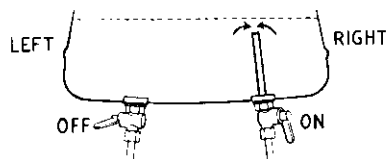

Fig. 3.
**Gas Taps.**—Turn down the levers to open the taps. For normal running, open the right side tap only, when a reserve supply will be retained which can be fed to the carburetters after the left side tap is opened, Fig. 3. Always turn off the taps when parking. The taps can be removed as necessary, for cleaning of their filters. For sustained high speeds it may be found necessary to use both taps together.